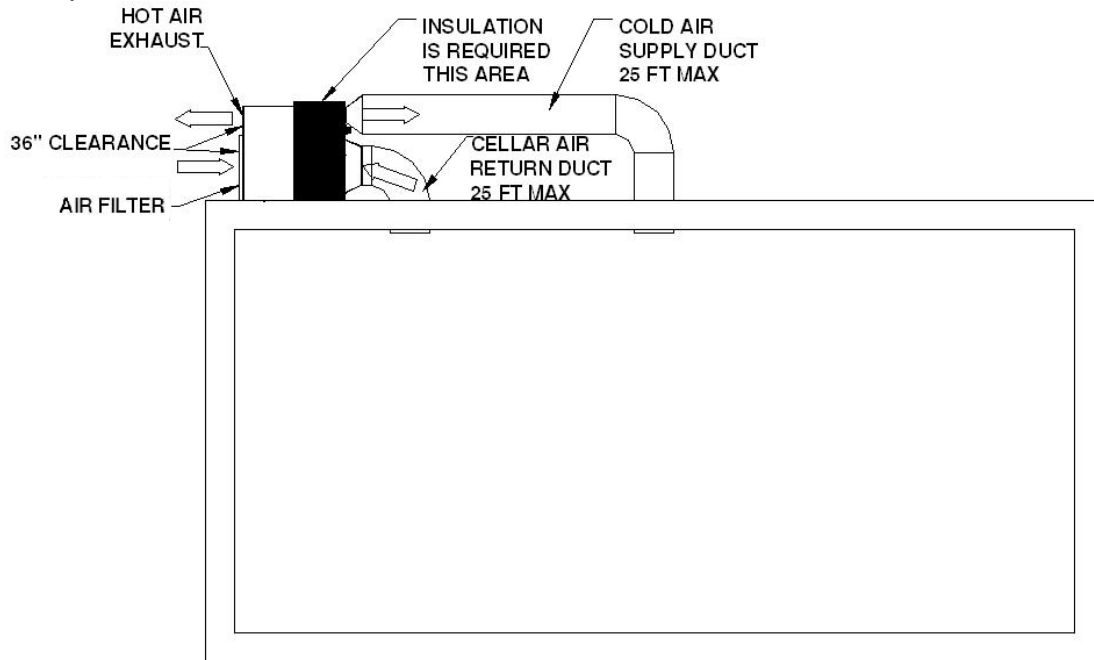

Fig. 4.13 Cold-air supply and cellar-air return ducts only
6. Remote installation with cold-air supply and cellar-air return ducts only (Fig. 4.13)